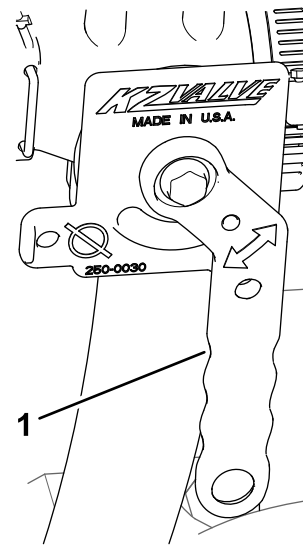

Figure 43
4. Rotate the handle of the eductor shutoff valve to open position (Figure 43).
5. Close the eductor shutoff valve; refer to Figure 43 of Starting the Eductor \(page 22\).